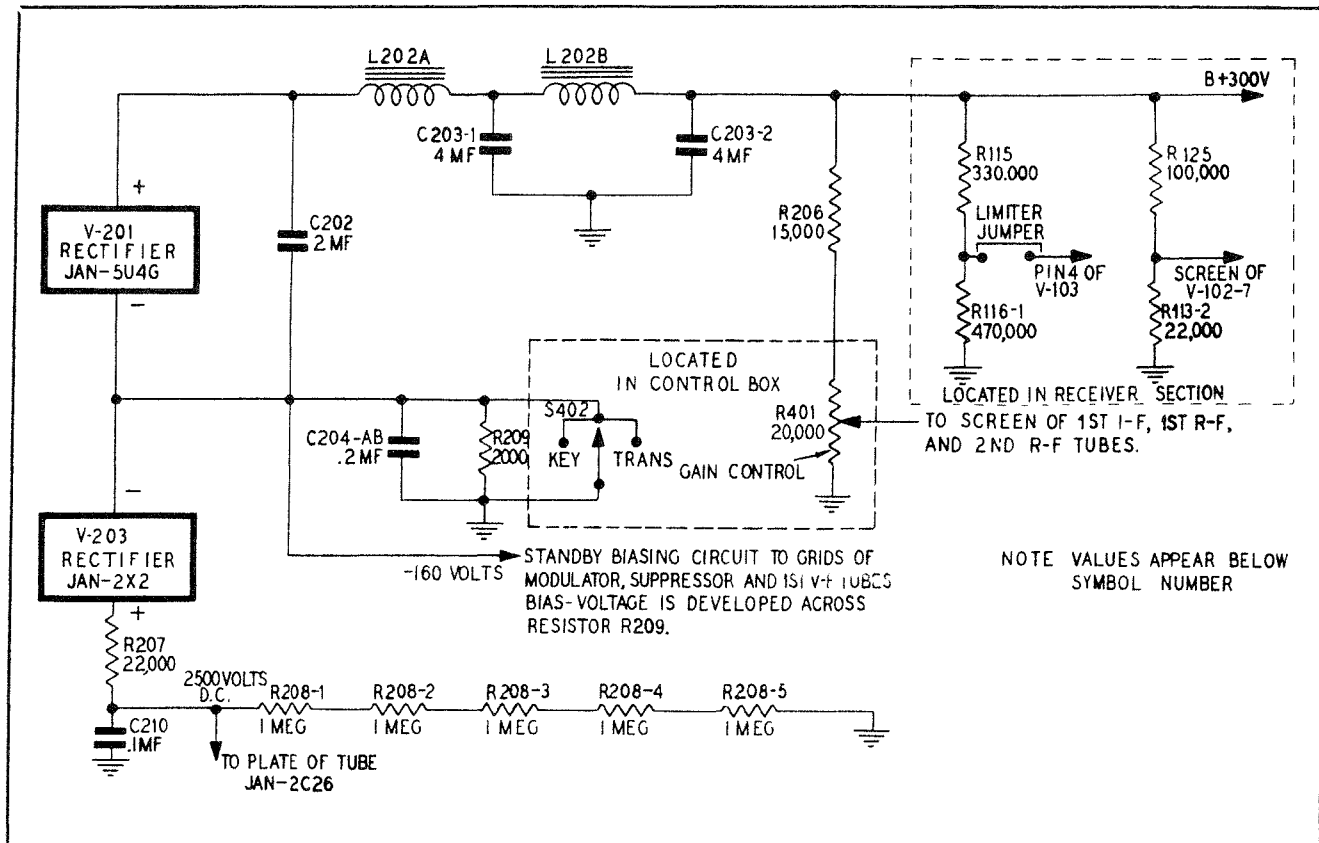

Figure 4-8. Receiver-Transmitter Power Supply and Bias System, Sectional Diagram
(6) POWER-SUPPLY CIRCUITS. (See figure 4-8.)—The a-c input voltage of either 115 volts or 80 volts, having a frequency of from 400 to 2400 cps is fed to the primaries of power transformers T201 and T202 through socket J201. Transformer T201 is a step-up transformer, supplying the plate voltage to both low- and high-voltage rectifier circuits. Transformer T202 is a step-down transformer, supplying filament voltages to both transmitter and receiver.